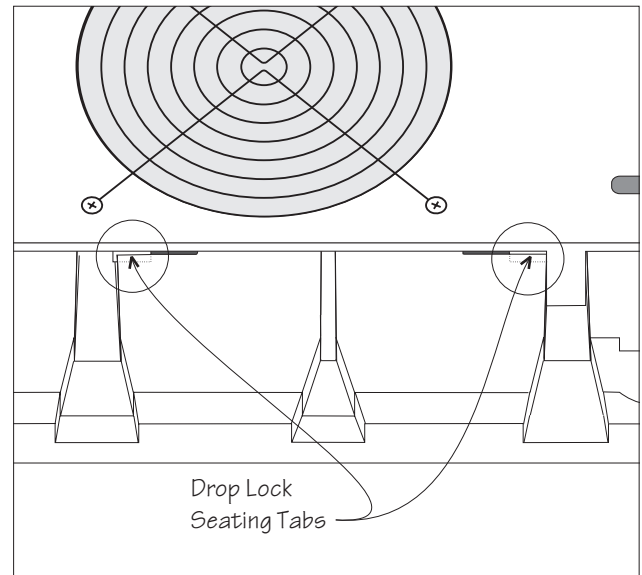

Fig 8-8 Drop Lock Seating Tabs
4. Note the two drop lock seating tabs at the front of the power module. See Figure 8-8. These are designed to hold the module firmly in the Power Array frame. When removing a failed power module, lift the front of the module slightly to release the drop lock seating tabs, and then pull the module from the bay.